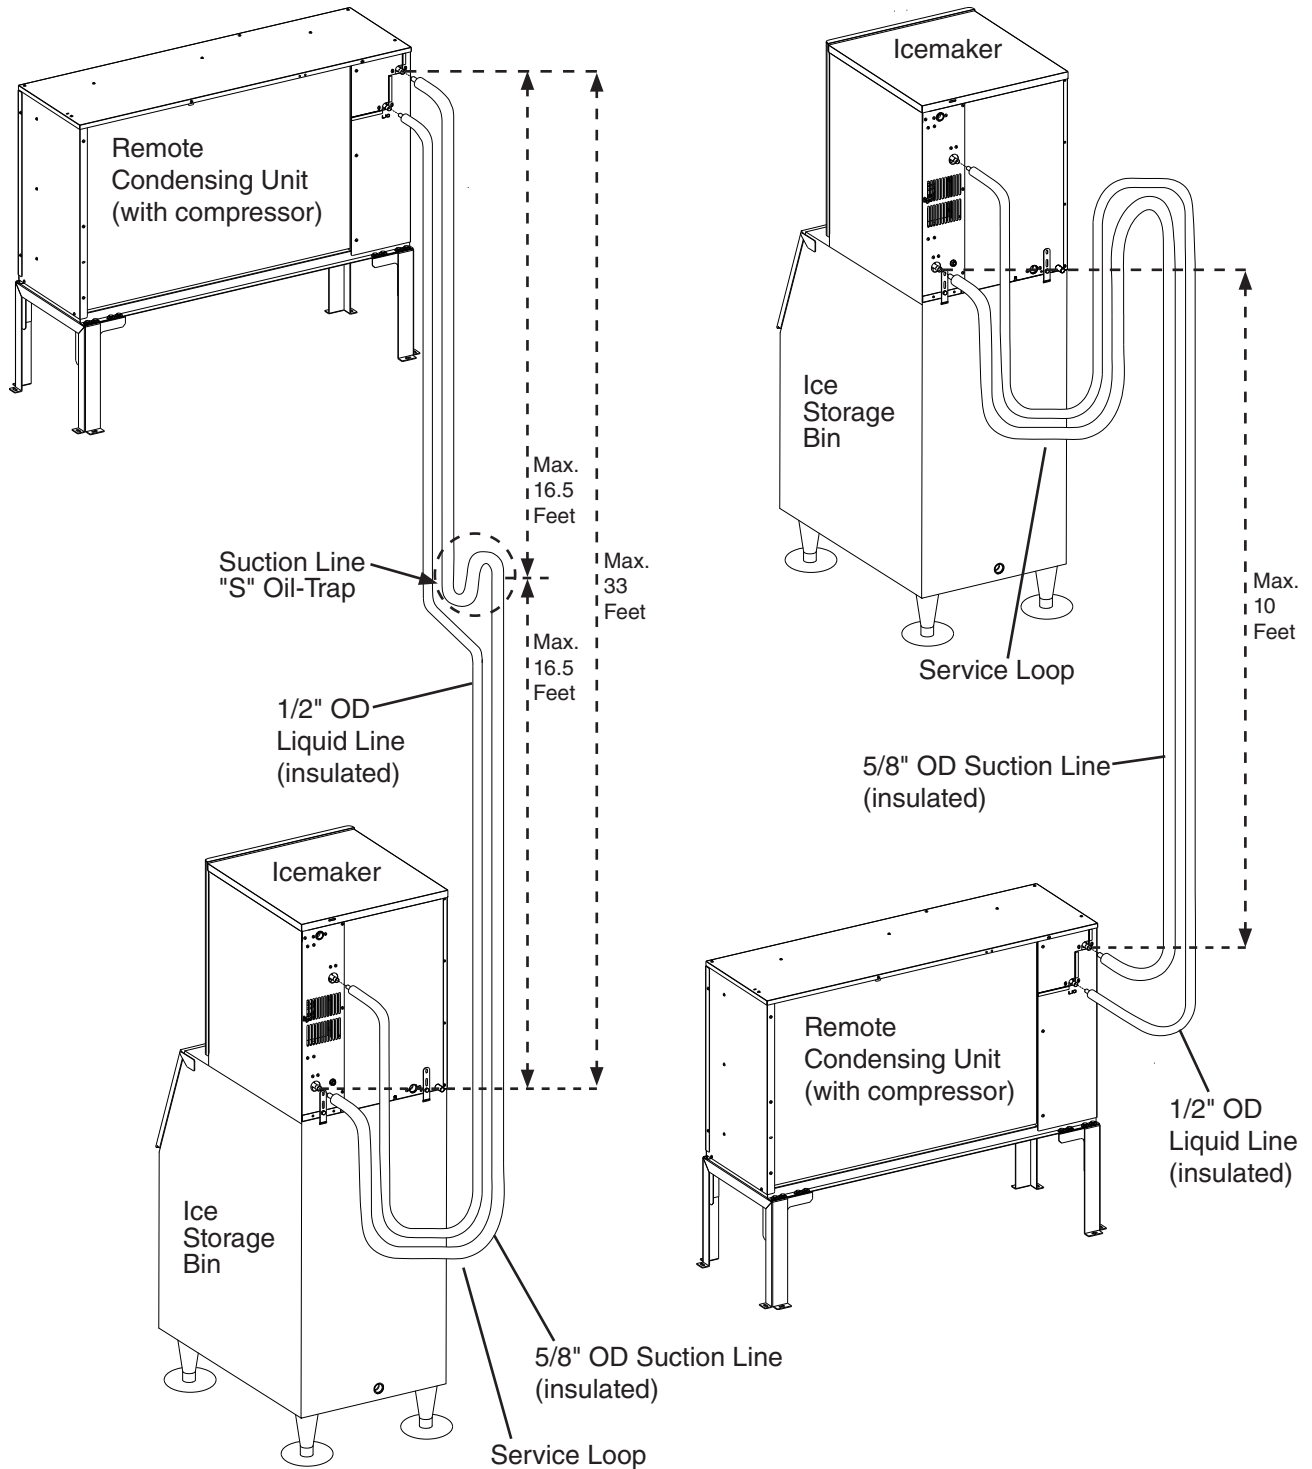

Fig. 9
- The maximum vertical distance between the remote condensing unit and icemaker is 33' (10 m) above or 10' (3 m) below the icemaker. These distances are measured fitting to fitting. See Fig. 9. **NOTICE! Do not exceed maximum vertical distance.**
- 1) Route the factory line set or appropriate size copper tubing. When field fabricating, insulate the copper tubes separately. Leave a service loop behind the icemaker to allow the icemaker to be pulled out for service. See Fig. 9. Note: The service loop is not considered an oil trap.